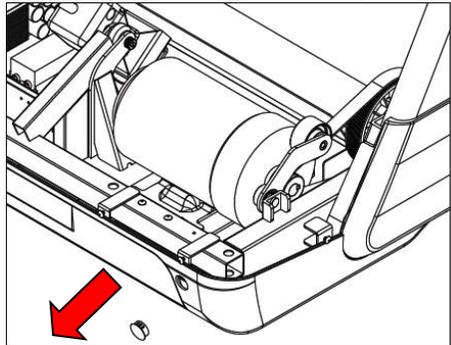

Figure 4.3.2
4.3.3 As shown in Figure 4.3.2, remove the motor under the cover button.